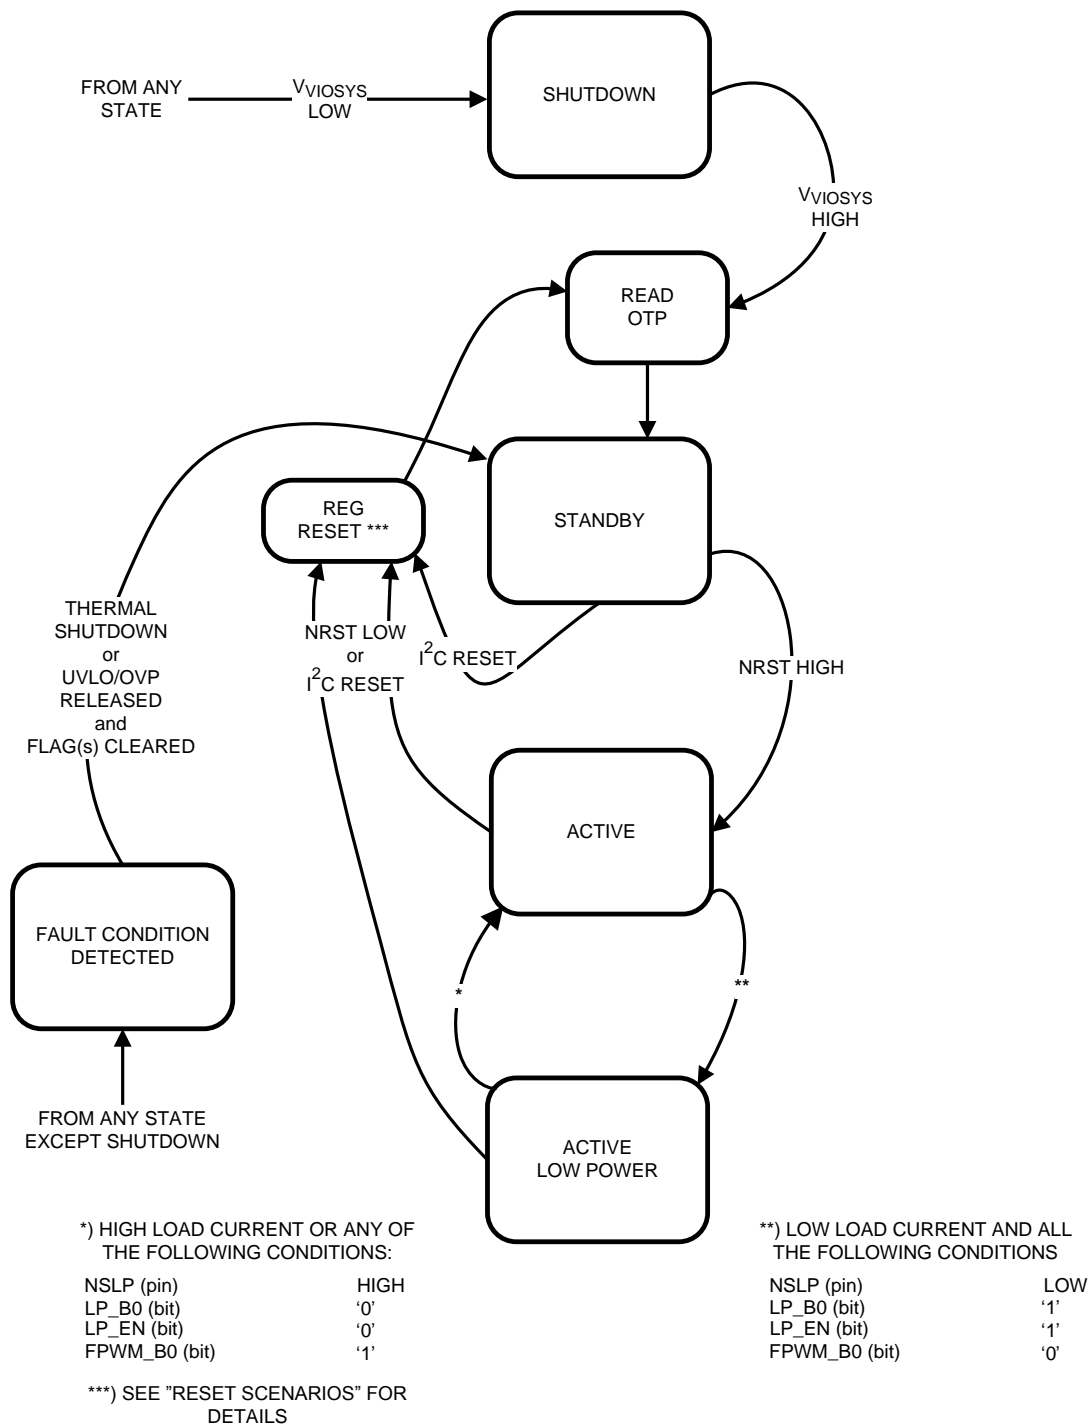

Figure 18. Device Operation Modes
**LOW-POWER:** At light loads (less than ~30 mA), and when the load does not require highest level of transient performance, the device enters automatically Low-Power mode. In this mode the part operates at low Iq. Conditions entering and exiting Low-Power mode are shown in Figure 18.